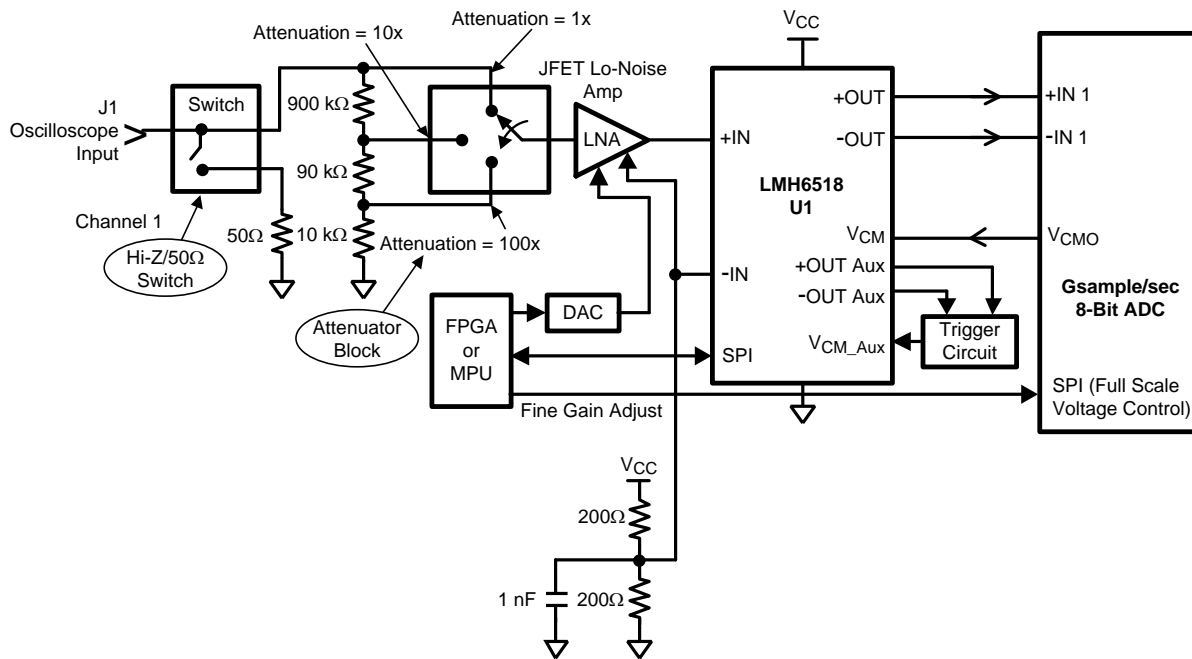

Figure 62. Digital Oscilloscope Front-End
To accommodate a higher FS input, an additional attenuator is needed before the LMH6518. This front-end attenuator is shown in the Figure 62 with its details shown in Figure 71. The highest minimum attenuation level is determined by the largest FS input signal (FS_{max}):
- Scope front end noise (Front-end attenuator + scope probe Hi-Z buffer which is discussed later in this document and shown in Figure 62)
From Figure 62, the signal path consists of the input impedance switch, the attenuator switch, Low Noise Amplifier (LNA, JFET amplifier) to drive the LMH6518 input (+IN), and the DAC to provide offset adjust. The LNA must have the following characteristics:
- Low Noise ($<0.98 \text{ nV}/\sqrt{\text{Hz}}$) to reduce the impact on the LMH6518 Noise Figure. Note that Figure 62 does not show the necessary capacitors across the resistors in the front-end attenuators (see Figure 71). These capacitors provide frequency response compensation and limit the noise contribution from the resistors so that they do not impact the signal path noise. For more information about front-end attenuator design, including frequency compensation, see REFERENCE for additional resources.
Here is the schematic drawing for a possible implementation of the LNA buffer shown in Figure 62: